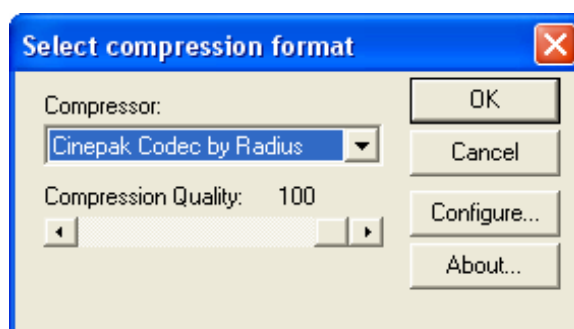

Figure 1.58 Select compression format
7. From the dialog box illustrated in Figure 1.58, select **Microsoft Video 1** from the **Compressor** list and click **Ok** button.